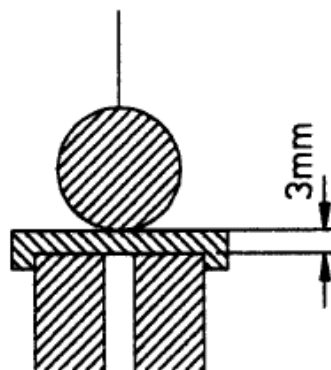

Fig. 7 Distance between the pendulum bob and the electromagnet
- Set the distance between the pendulum bob and the electromagnet to approx. 3 mm. This distance is achieved when the bob barely touches the plate that can be laid over the electromagnet in order to make this adjustment (see Fig. 7). If the distance is too great, the effect of the excitation mechanism is weaker.